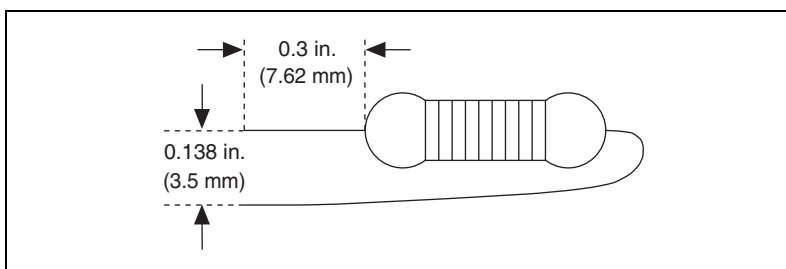

Figure 4-12. Preparing Lead Wires of PCMCIA-CAN/LS Cable Replacement Resistors
2. Bend and cut the lead wires of the two resistors you want to install, as shown in Figure 4-12.